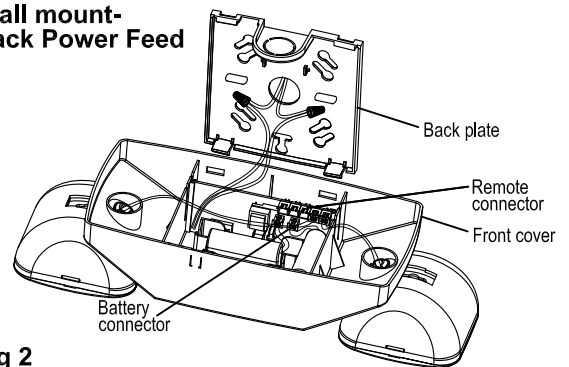

Fig 2
Wall Mount - Back Power Feed (see Fig 2)
7. Connect battery connector.(see Fig 2).
Connect Remote Heads (see Fig 2)